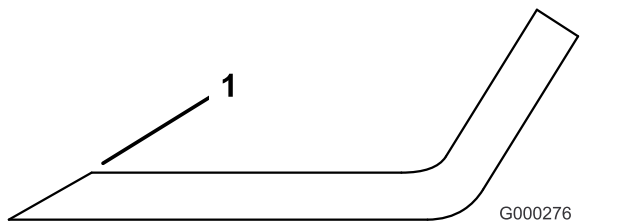

Figure 132
3. Examine the cutting edges of all of the blades and sharpen the cutting edges if they are dull or nicked (Figure 132).
Note: Sharpen only the top of the cutting edge and maintain the original cutting angle to ensure sharpness (Figure 132). The blade remains balanced if the same amount of metal is removed from both cutting edges.